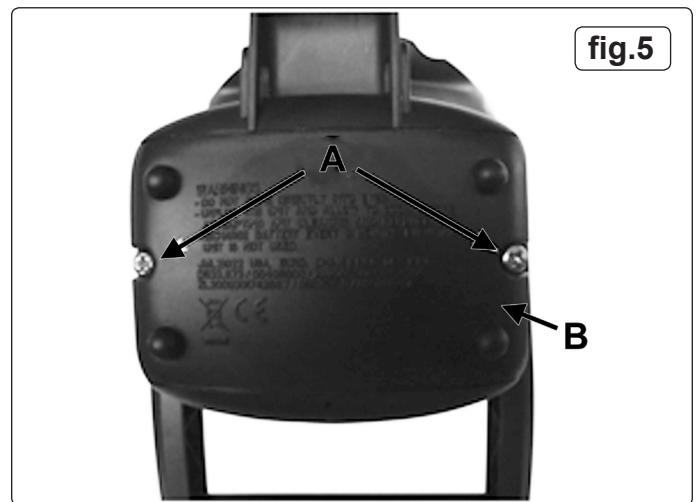

fig.5
- 4.1.2. Undo the 2 battery cover retaining screws (fig.5.A) at the rear of the spotlight.
- 4.1.3. Remove the battery cover (fig.5.B).